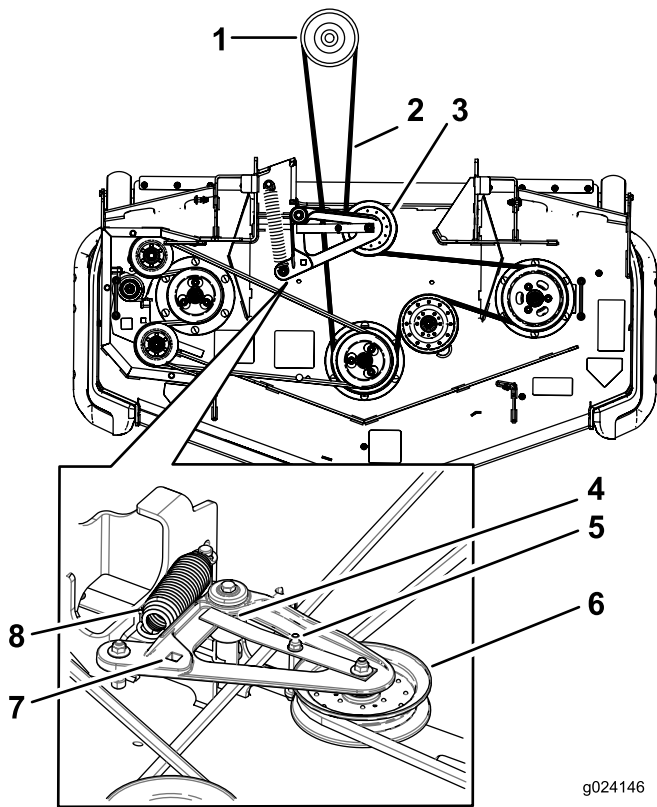

Figure 97
- Lift the floor pan and insert a ratchet into the square hole in the deck idler (Figure 97).
- Rotate the deck idler clockwise and remove the mower belt (Figure 97).
7. Remove and retain the hardware on both sides of the deck as shown in Figure 97.